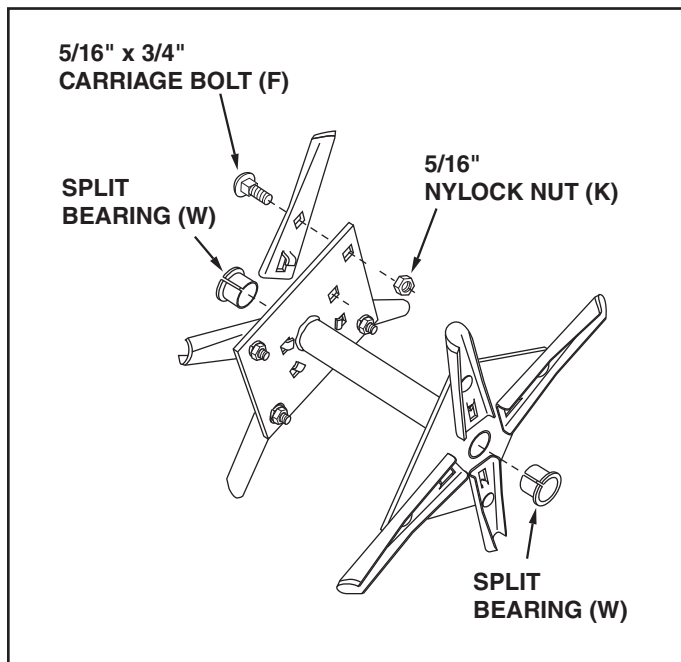

FIGURE 1
1. Assemble eight aerator knives on the **outside** of each double spool assembly. Rotate each knife to insert the locking tab into the spool plate, then align the square holes and secure with a 5/16" x 3/4" carriage bolt (F), and a 5/16" nylock nut (K). See figure 1.
2. Push split plastic bearings (W) into both ends of all spool assemblies. See figure 1.